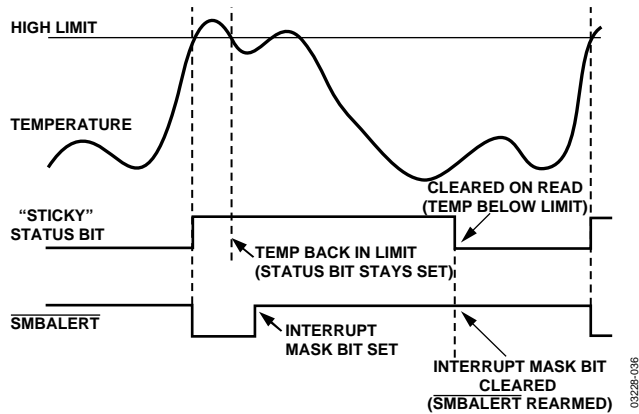

Figure 36. How Masking the Interrupt Source Affects  $\overline{\text{SMBALERT}}$  Output
7. Periodically poll the status registers. If the interrupt status bit has cleared, reset the corresponding interrupt mask bit to 0. This causes the SMBALERT output and status bits to behave as shown in Figure 36.